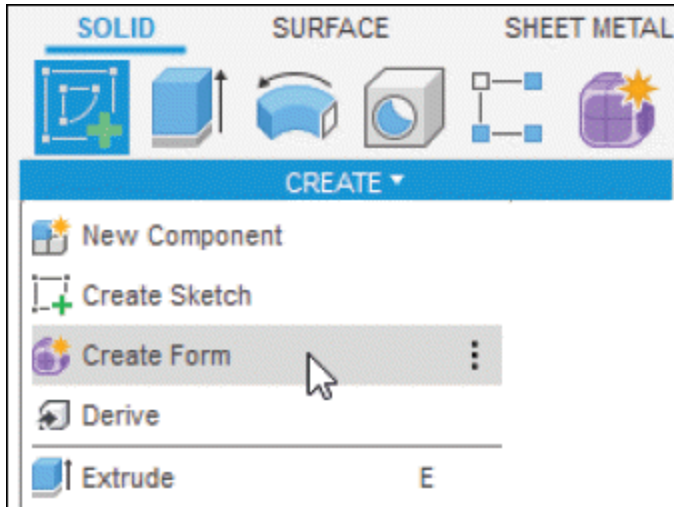
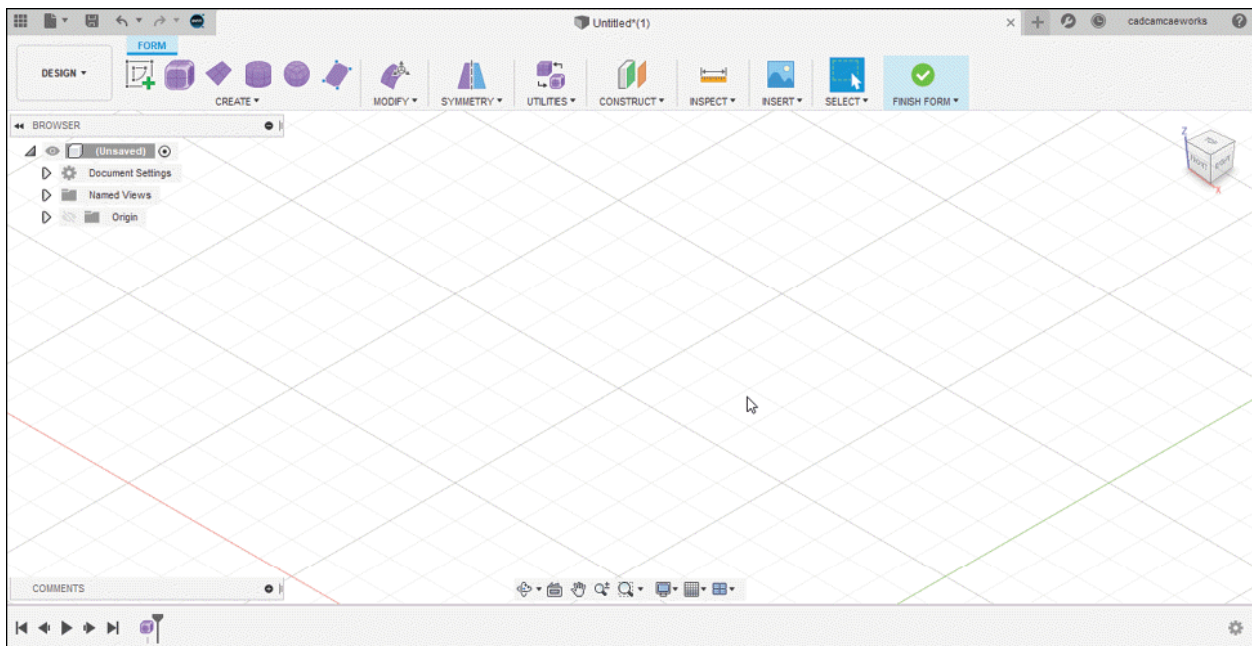

Figure-122. Create Form tool
Figure-123. Form mode
- Click on **Create Form** tool of **CREATE** drop-down from **Toolbar**; refer to Figure-122. The **Form mode** will be activated and related toolbar will be displayed; refer to Figure-123.